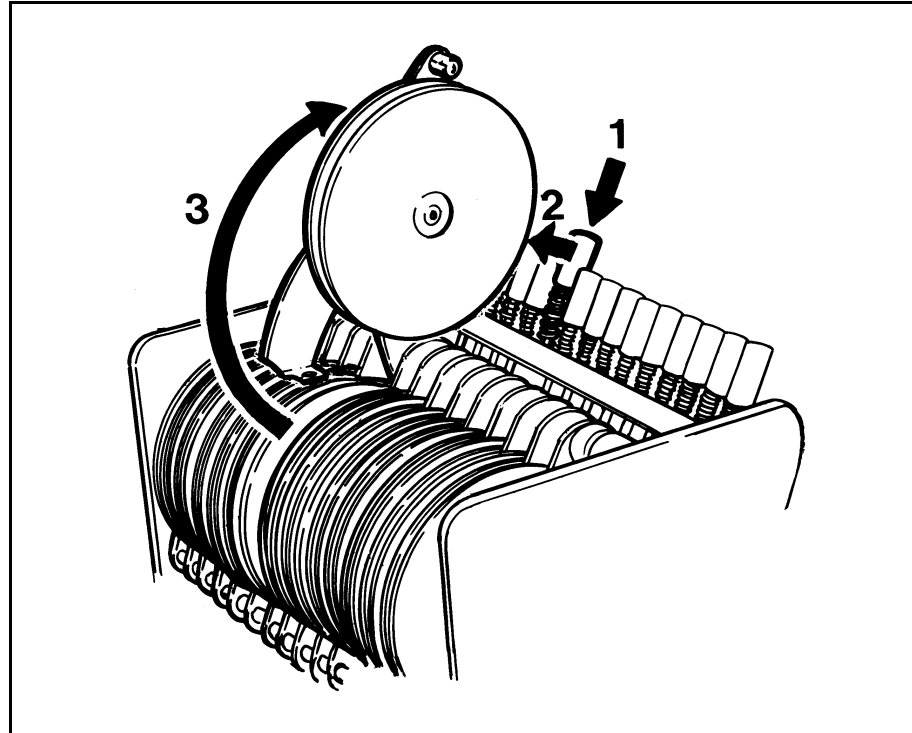

Figure 5-26. Loading a TM magazine.
1. Press the lock button down for the feeder to be loaded ('1' in Figure 5-26).
2. Pull the button forward while holding it down (2). When the button is released the locking mechanism is disengaged and the button comes up.
3. Lift up the cover tape take up reel (3). If this is not empty remove it from the magazine by pulling it off the hub and empty it.